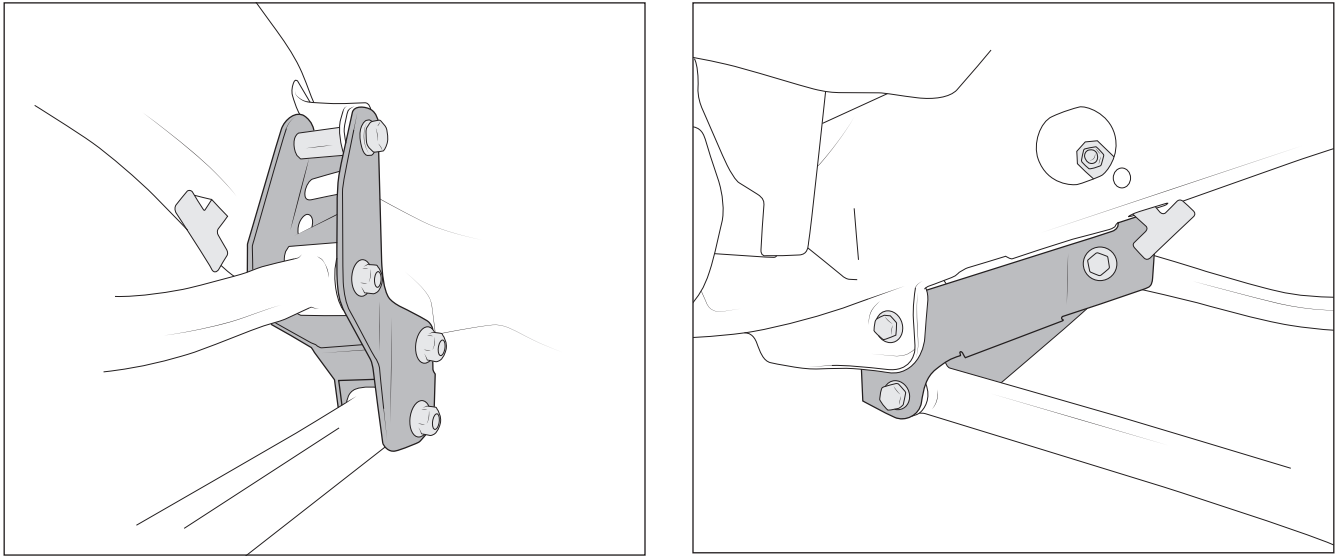

Figure 20: Inboard View (left) Outboard View (right)
- B. Install the brackets as shown (Fig. 20). Use the factory hardware and supplied spacers (which will fill the void for the control arms) in the original control arm mounting locations.
- C. Use the supplied bolts, nuts, and washers to mount the control arms in the new dropped locations. Use M12 fasteners for the upper control arms and M16 for the lower control arms (Fig. 20).